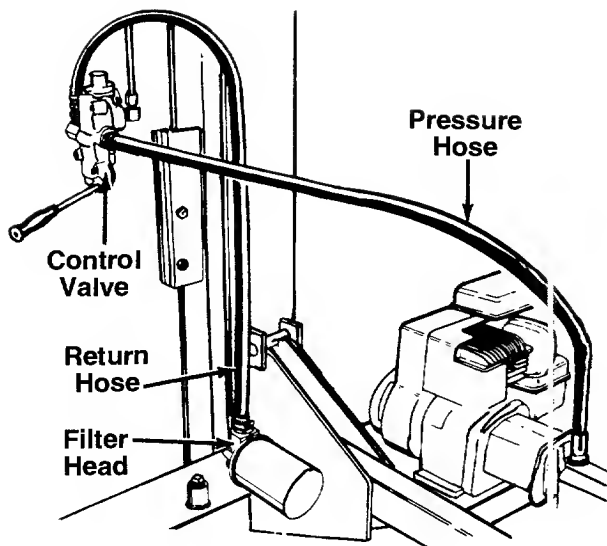

FIGURE 10.
2. Remove the protective cap from the fitting on top of the filter head. Attach the end of the hose to the fitting on top of the filter head. See figure 10. Place the hose clamp at the base of the fitting, and tighten securely.
The pressure hose is attached to the top of the pump. Route the hose as shown in figure 10. Remove the protective caps from the hose and control valve. Secure the pressure hose to the bottom of the control valve, using an adjustable wrench.